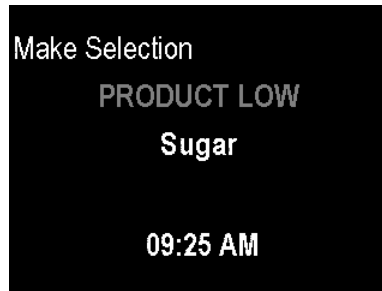
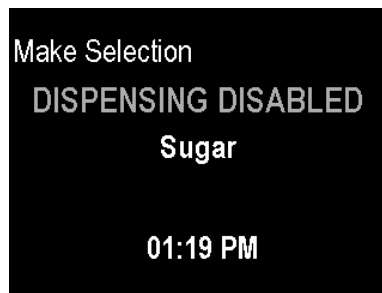

Figure 14: Product low indicator
Figure 15: Dispensing disabled indicator
- Flashing Yellow – non-critical: **PRODUCT LOW** (Figure 14) or **DISPENSING DISABLED** (Figure 15). Solid yellow for **LOCKED**. For more information on product